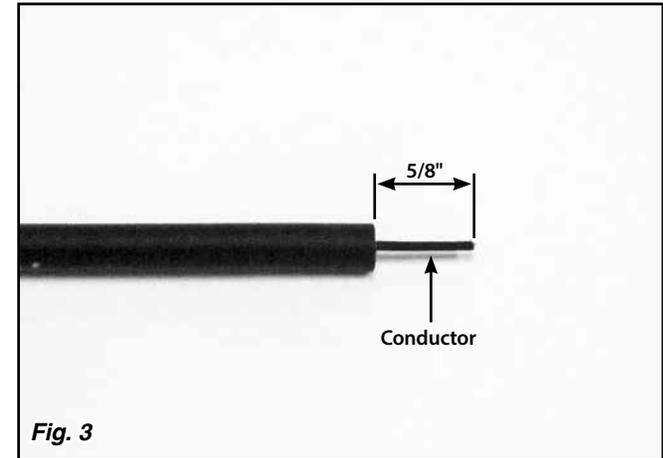

Fig. 3
Step 6: Bend the cut section back and forth a few times to break the insulation free from the conductor core in the plug wire. Pull the insulation off of the plug wire, leaving 5/8" of the conductor sticking out. **Fig. 3**